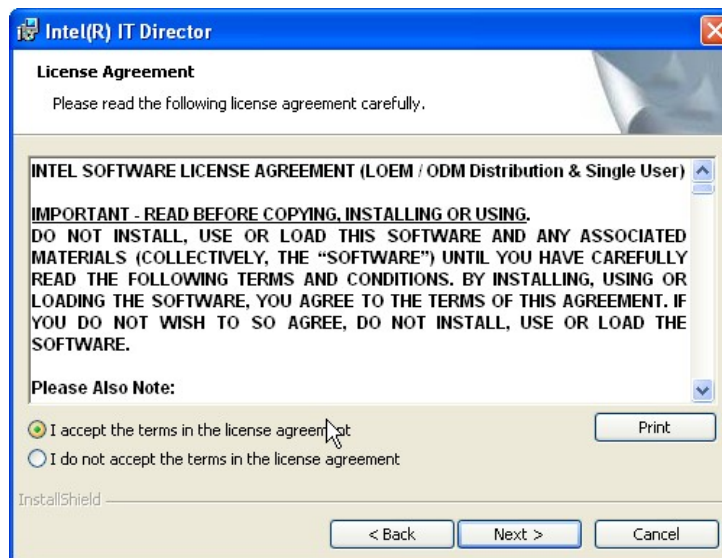

Figure 6-29: IT Director License Agreement
Step 7: The license agreement in **Figure 6-29** appears.